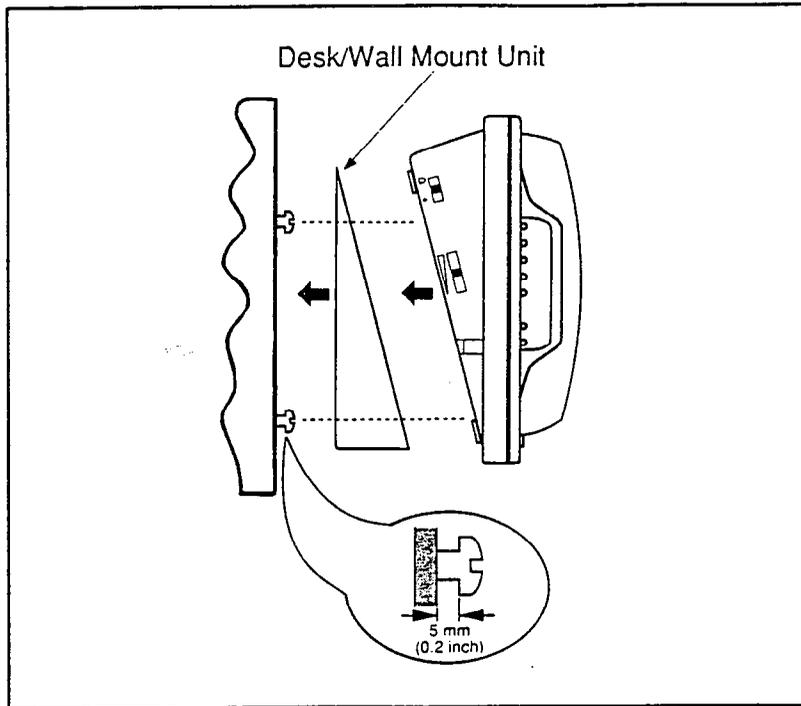

Figure 6-10 Panther Telephone Set Wall Mounting
- Step 5. Rest the Panther telephone set on the Desk/Wall Mount Unit. See Figure 6-10.